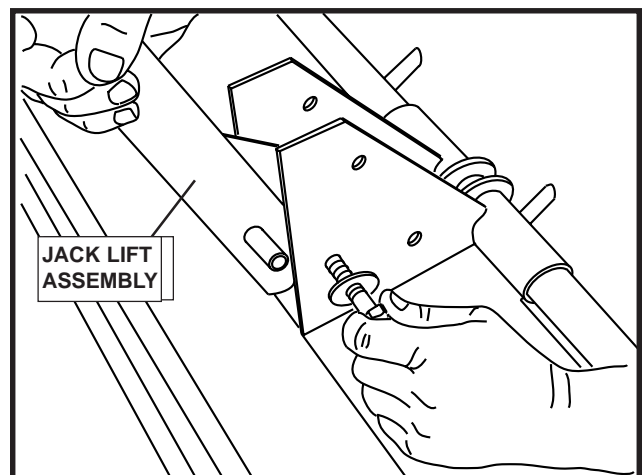

FIGURE 3
3. Install 1/2" x 3" bolt and washer through frame mount and jack assembly. Add 1/2" lock nut with washer and tighten. See Figure 3.